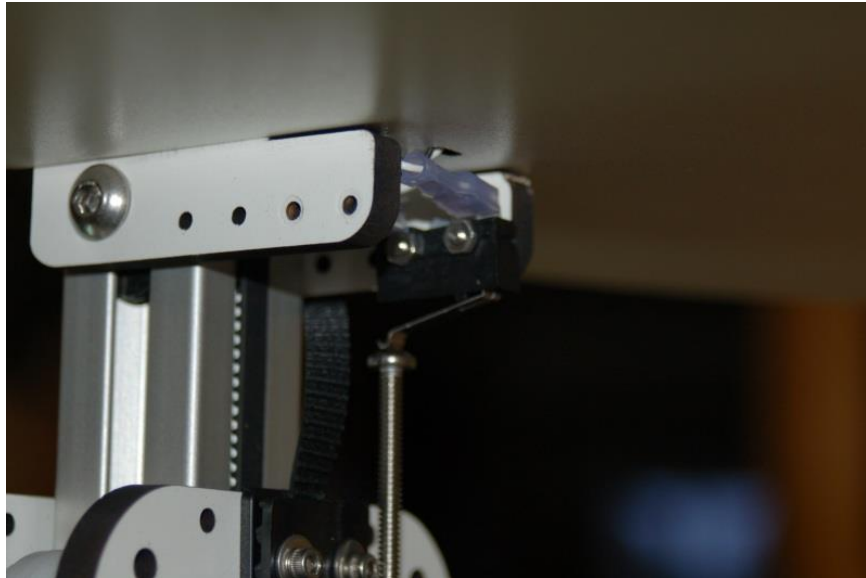

Figure 93 - End Stop Switch installed.
19.12 - Install the switch wiring and using the #2-56 screws and nuts, install the switch as shown in Fig. 93.